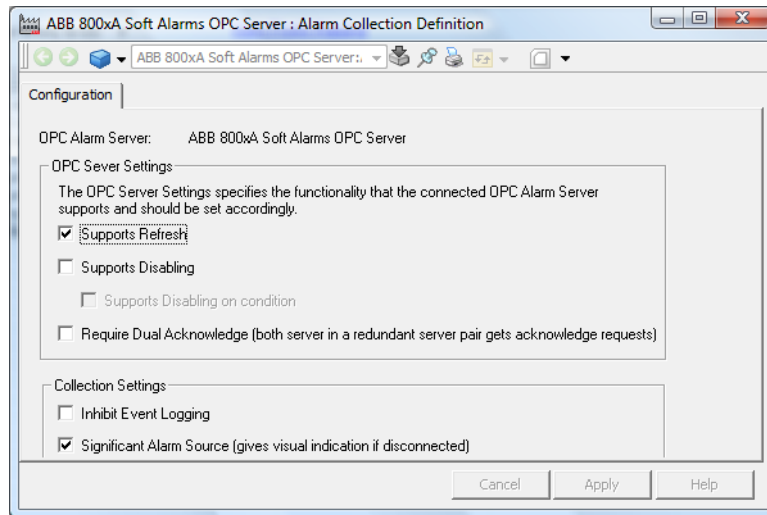

Figure 341. Alarm Collection Definition
1. Specify the appropriate settings for the OPC server, refer to Figure 341.